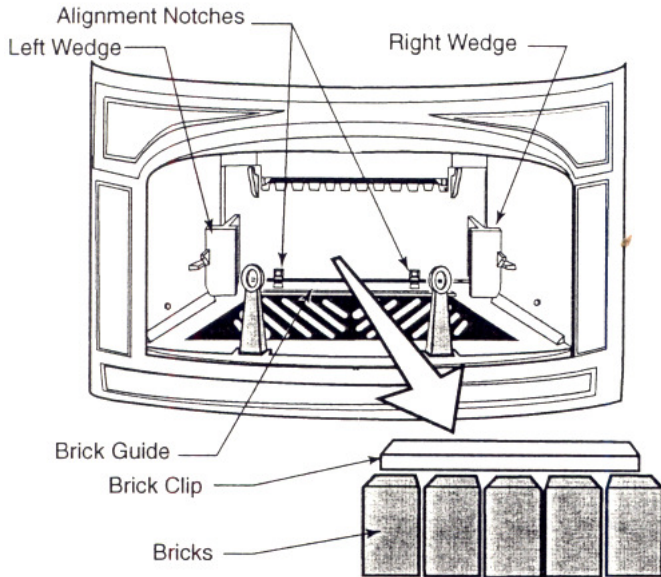

Fig. 2 Remove Bricks
4. Pry the firebrick retainer clip off the firebricks. Remove the bricks and the clip (Fig. 2).